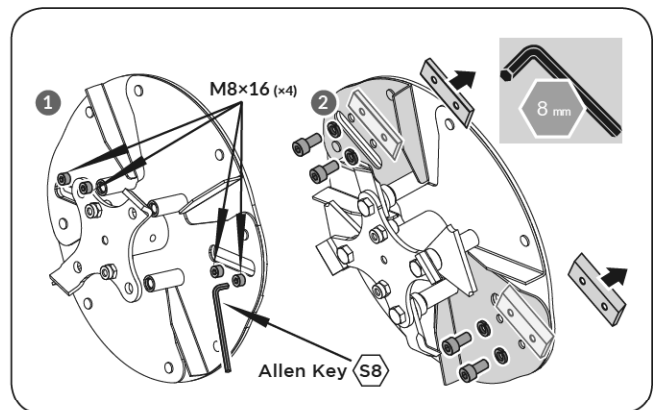

Figure 15
- If knife show signs of wear, replace it. Using the 8mm hex wrench, reach into the main housing and remove the two socket head cap screws and the chipper knife. (See Figure 15)